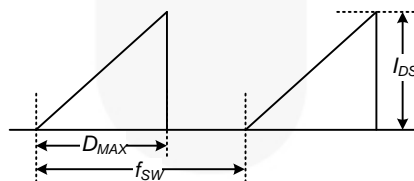

Figure 4. Repetitive Peak Switching Current
- Repetitive peak switching current when the inductive load is assumed: Limited by maximum duty ($D_{MAX}=0.74$) and junction temperature (see Figure 4).